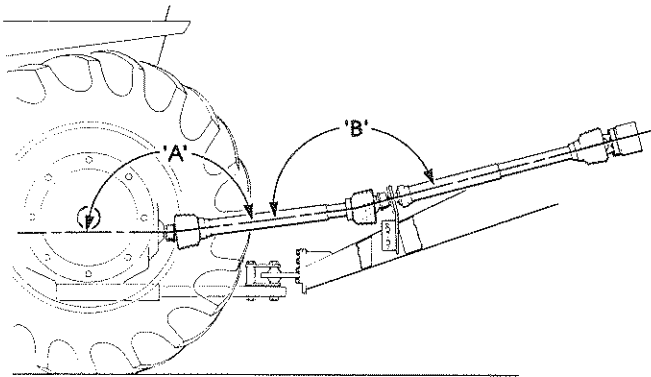
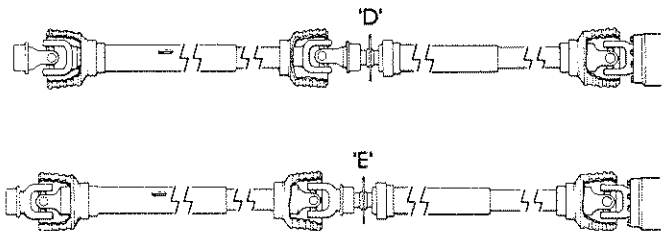

Fig. 4
Fig. 5
7. The drivelines must be adjusted so the angle of the tractor u-joint, 'A' **Fig. 4**, and the angle of the center u-joint, 'B' **Fig. 4**, are equal. To achieve equal angles at 'A' and 'B', adjust the vertical position of the carrier bearing support bracket. If, after repositioning the support bracket, the angles are not equal, select the bracket position that allows the closest angle setting. The objective is, to achieve as closely as possible, equal angles as described above while keeping the angle of the u-joint at the slip clutch to a minimum.
8. If equal angles are achieved at 'A' and 'B', (Fig. 4), either driveline phasing, (alignment of u-joint yokes), illustrated in Fig. 5 is acceptable. If the angles cannot be made equal, then reposition the driveline yokes as shown. If the angle at 'B' is greater than at 'A', phase the driveline yokes as shown in Fig. 5, (E). If angle at 'A' is greater than the angle at 'B', phase the yokes as shown in Fig. 5, (D).